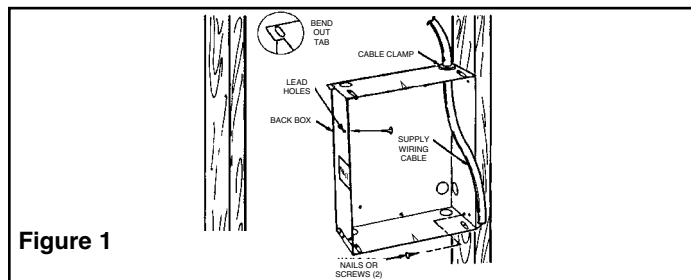

Figure 1
1. Determine which side of the back box is to be mounted against a stud and bend the tabs at the rear corners out 90 degrees so that the back box will be square with the stud after installation. (See Figure 1).
3. Position back box against side of studs and secure using nails or screws as shown in Figure 1.
**NOTE:** Lead holes for a #8 sheet metal screw have been provided in the sides of the back box. After the finished wall or ceiling has been put up, drive a #8(m4) sheet metal screw (recommended 1" long) through the side of the box not mounted to the stud. This will prevent the back box from pulling out when installing the heater assembly. (See Figure 1)